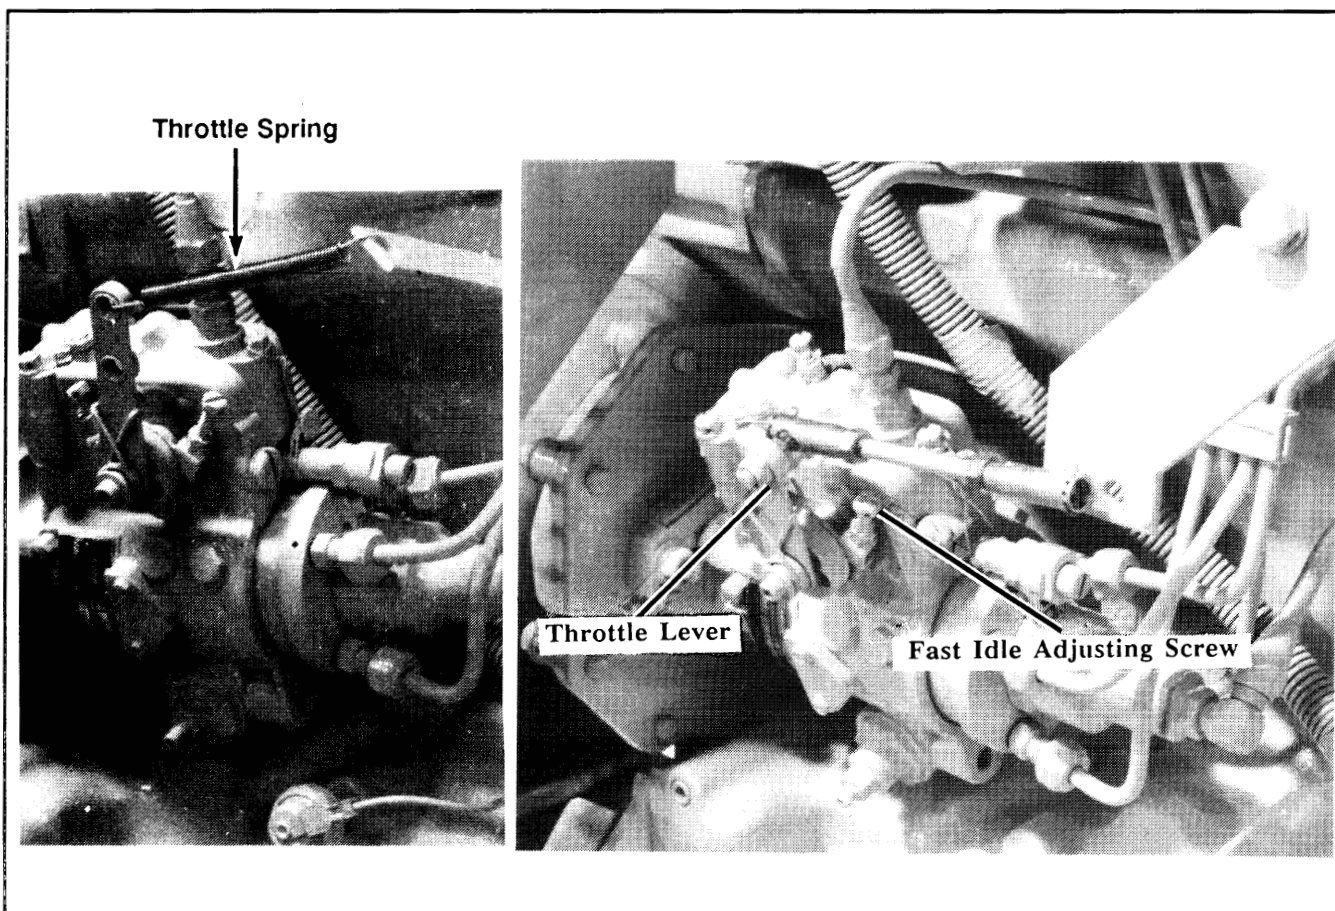

Figure 1. Removing Existing Throttle Spring or Ball Joint Linkage (typical)
2. Remove governor spring **or** governor ball joint linkage. These components will not be reused. The bracket can remain mounted to engine. See Figure 1.